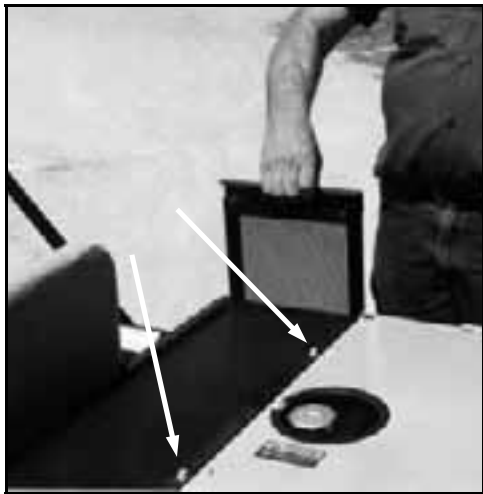

FIG 7.17
**REMOVAL** - The side grille screens are easily removed by sliding them up out of their housings (fig. 7.17). The top screen is held in place by two bolts (fig. 7.17) and may also be removed for cleaning.